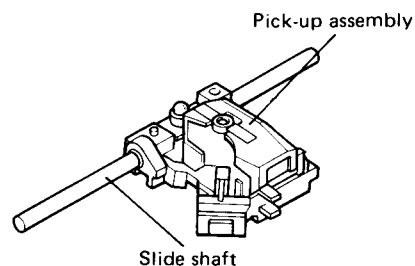

Fig. 16
10. Take out the slide shaft and PICK-UP assembly. (Fig. 16)